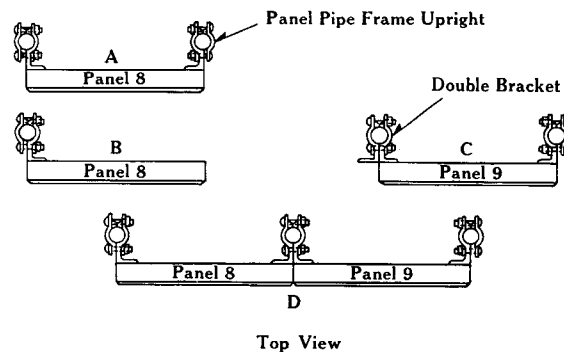

Fig. 14—Method of Erecting Pipe Frame Switchboards
- 1—Set the middle panel, say panel 8, in position first as shown in View A, Fig. 14.
- 3—Remove the adjacent panel (9) from the crate and change one upright (in this case the left hand) making double brackets by using material taken from the upright removed from panel 8 and the $\frac{3}{8} \times 3$ carriage bolts which are furnished separately (View C).